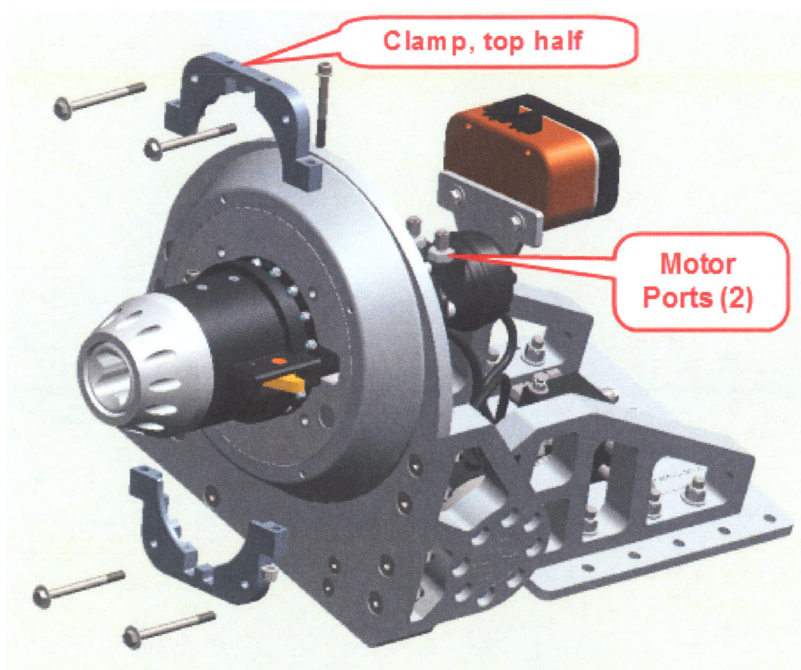

Fig. 3
- From the front, install the clamp (item 15 of drawing TL0017-1000-00) on the torque tool (Figures 3 and 5).